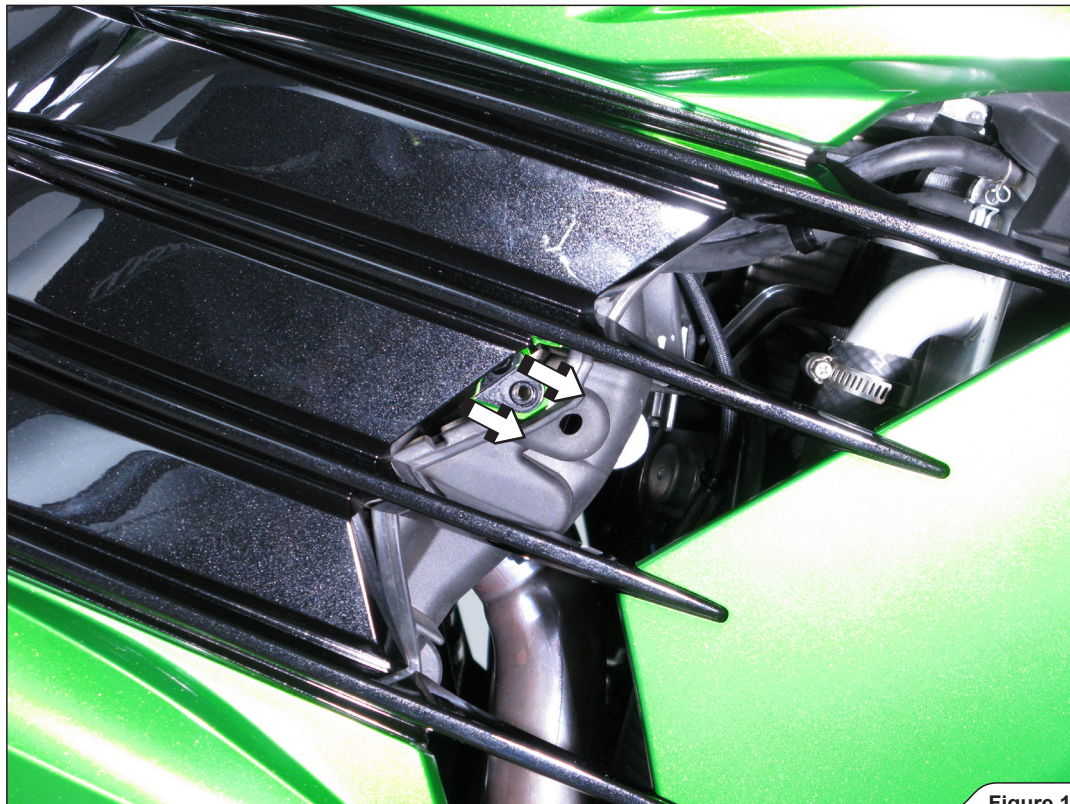

Figure 13
7. **For Optional Headers only:** move the marked rubber protection out of the way as shown, on both side of the motorcycle (**Figure 13**).